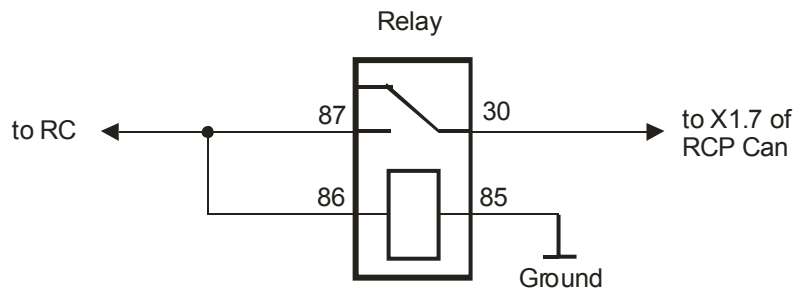

Figure 7
- The input RC\_in is intended for the connection of specialized remote controls such as DEFA Smart Start, Hydronic Easy Start, Webasto Telestart. If a problem exists with direct connection of the remote control output line to the input RC\_in, it is recommended to make a connection by the scheme at the fig.7.